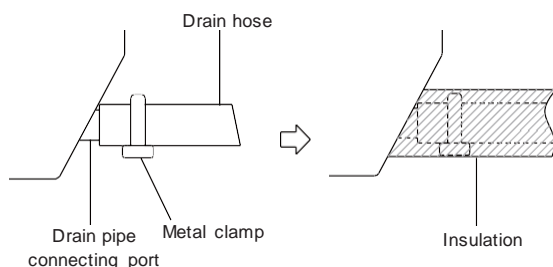

Fig. 6.1
2. Attach the mouth of the drain hose to the unit's outlet pipe. Sheath the mouth of the hose and clip it firmly with a pipe clamp (see Fig. 6.1).